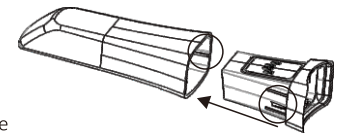

Figure 2
1. Before starting scanning, please kindly put on the scanner tip correctly, Please parallelly insert or remove the scanner tip based on Figure 2, without tilting;